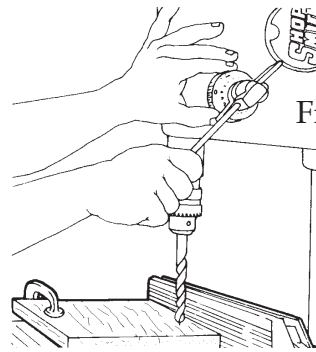

Figure D-24
5. Remove the stock and extend the quill so that the cutting flutes of the drill bit touch the scrap wood. Set the depth control to $1/8''$ and tighten the depth control lock. See Figure D-24. Then let the quill retract. Position the stock under the drill bit. Hold it against the table and rip fence. Extend the quill with the machine off to check where the drill bit will drill.